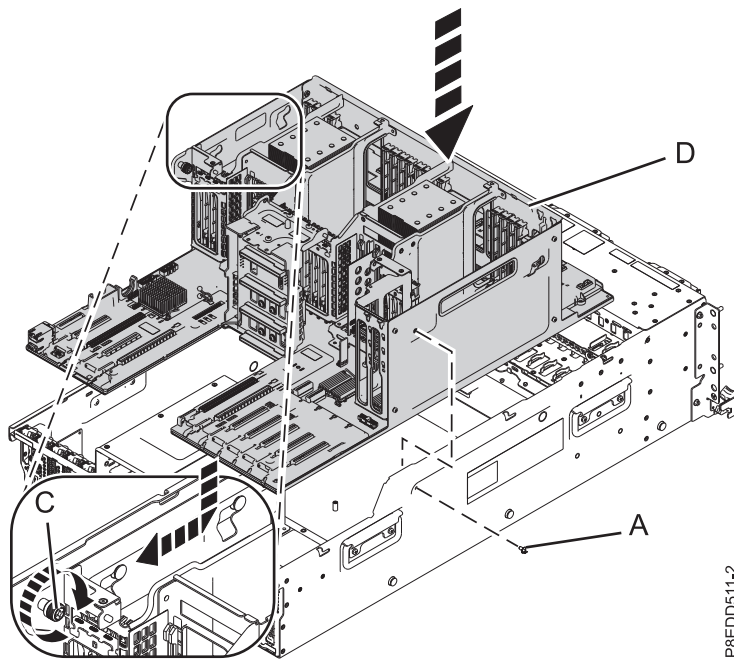

Figure 76. Installing the backplane
- a. Using the top guide rails towards the front of the replacement backplane (**D**), slide it in the direction that is shown to install it in the chassis as is shown in Figure 76 on page 77.
- b. Using a Phillips screwdriver, install and tighten screw (**A**) as shown in Figure 76 on page 77.
- e. Using a Phillips screwdriver, install and tighten two silver screws (**B**) as is shown in Figure 76 and Figure 77 on page 78.